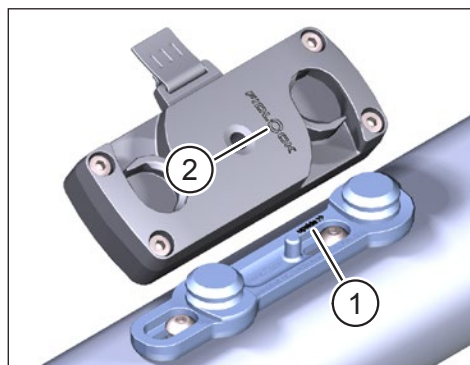

Fig. 2: Orientation of FIDLOCK® Bike Base and FIDLOCK® Force Connector
- Observe the inscription engraved "**upside>>**" when mounting on the FIDLOCK® Bike Base (Pos. 1 in Fig. 2). The upper edge of the FIDLOCK® logo (Pos. 2 in Fig. 2) on the FIDLOCK® Force Connector must point in the direction of the arrow from "**upside >>**".